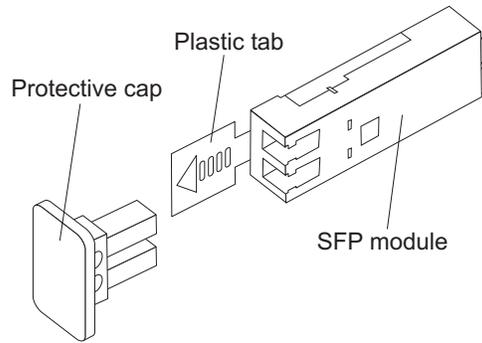

Figure 24. Installing an SFP module into the host port
4. Insert the SFP module into the host port until it clicks into place. See Figure 24 on page 39.